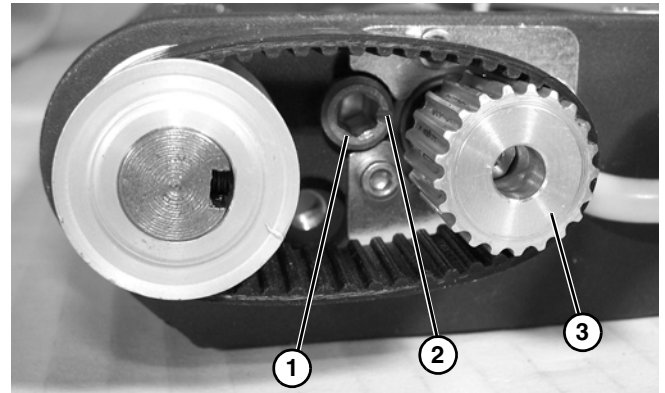
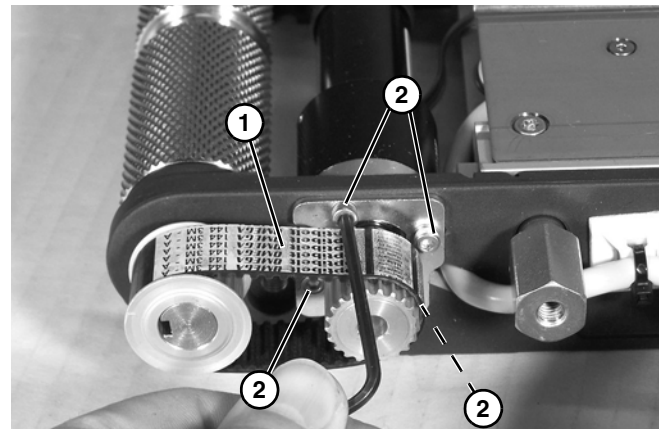

Figure 67
Figure 68
5. Tighten timing belt tension cam (**Figure 67, item 1**), making certain that pointer (**Figure 67, item 2**) on cam is pointing towards the motor drive spindle (**Figure 67, item 3**).
6. Rotate tension cam (**Figure 67, item 1**) to obtain 1/8 - 1/4" belt deflection at center of belt (**Figure 68, item 1**) with approximately 3-5 in-lb of pressure. Tighten four clamp plate screws (**Figure 68, item 2**) to 15 in-lb (1.6 Nm) to secure position.